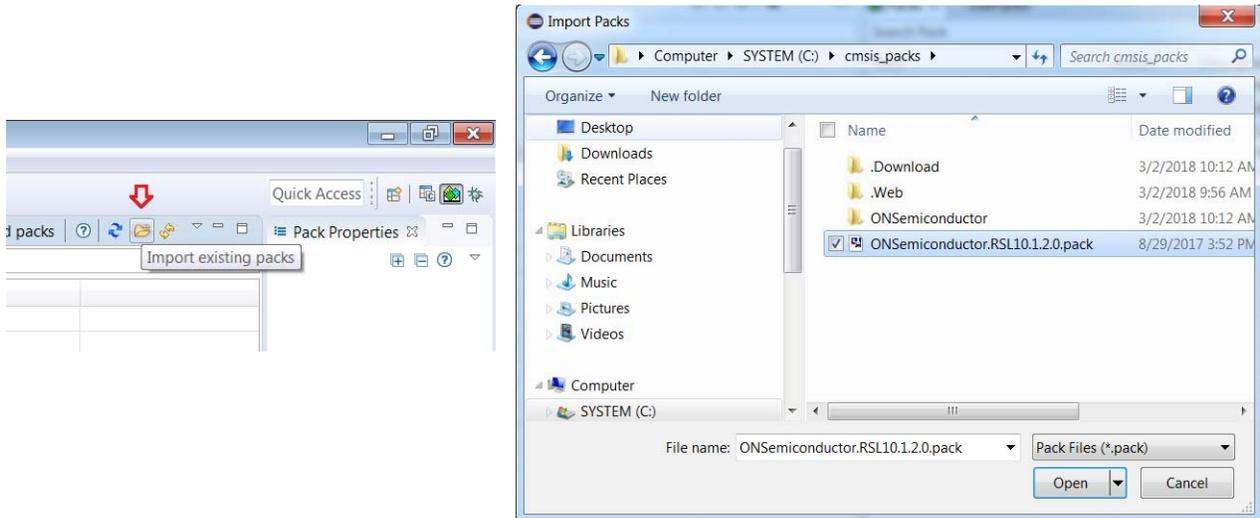

Figure 4. Installing the RSL10 CMSIS-Pack
4. Click on the **Import existing packs** icon, select your pack file *ONSemiconductor.RSL10.2.0.0.pack*, and click **Open** (see Figure 4). The pack can be found in the RSL10 Release 2.0 zip file, *RSL10_SDK_2.0.zip*.